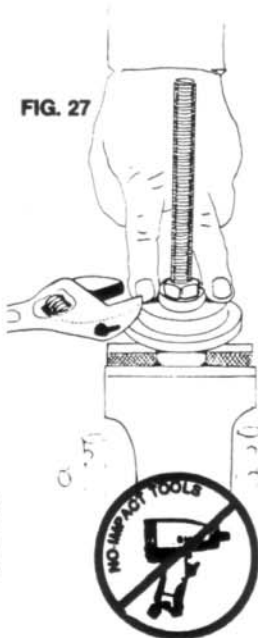

FIG. 27
6. Press down firmly on **THICK WASHER** to expand **COLLET**, now pull up on bearing cup retainer until **COLLET** snaps into place under cup. Continue to hold pressure on washer, and spin nut down to hold **COLLET** in place. Using wrench, torque to 10 to 15 ft./lbs. (Fig. 27)